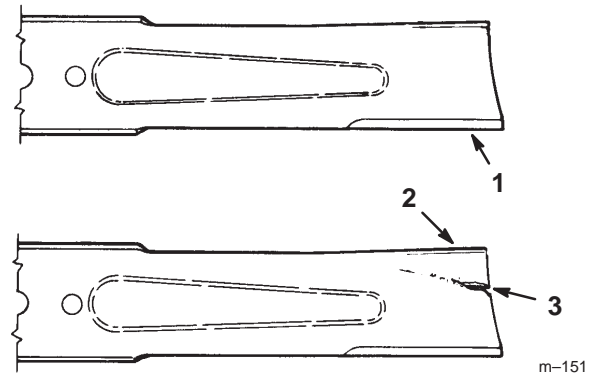

Figure 24
1. Inspect the cutting edges (Fig 24). If the edges are not sharp or have nicks, remove and sharpen the blades. Refer to Sharpening the Blades on page 28.
2. Inspect the blades, especially the curved area (Fig. 24). If you notice any damage, wear, or a slot forming in this area (item 3 in Fig. 24), immediately install a new blade.